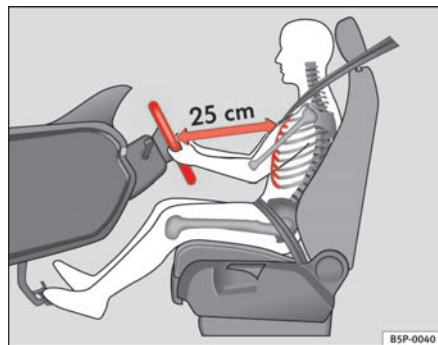

Fig. 94 Proper sitting position for driver
- Adjust the steering wheel in this way until the correct position is set ⇒ fig. 94.
- Adjust the driver seat or steering wheel so that there is a distance of at least 25 cm between the steering wheel and your breast bone ⇒ page 127, fig. 94. If you fail to observe the minimum distance, the airbag will not protect you. Risk of fatal injury.